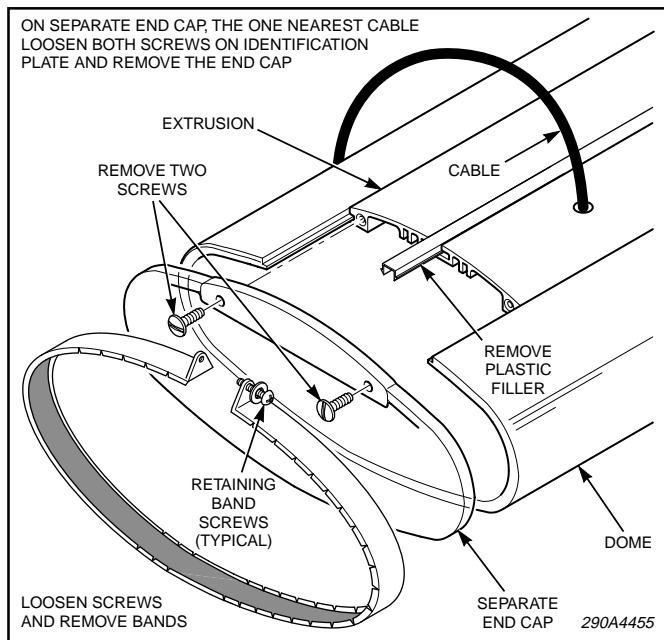

Figure 3.
1. See figure 3. Loosen retaining band screws. Remove both retaining bands. Remove the two screws located at the identification plate, on the end where cable exits light assembly. Remove the end cap and slide the plastic filler out of extrusion slot. Retain the screws, retaining bands, and the plastic filler.